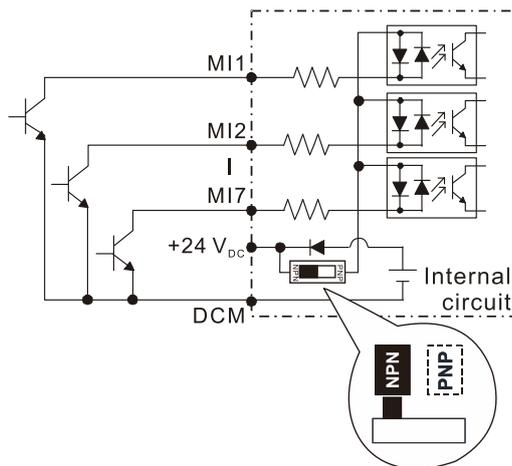
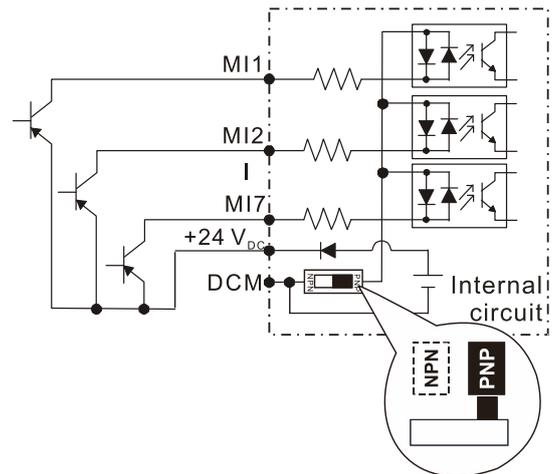

Figure 6-2
Figure 6-3
- When the photo coupler uses the internal power supply, the switch connection for Sink and Source modes shows as Figure 6-2 and Figure 6-3: MI-DCM: Sink mode; MI-+24 V_{DC}: Source mode.